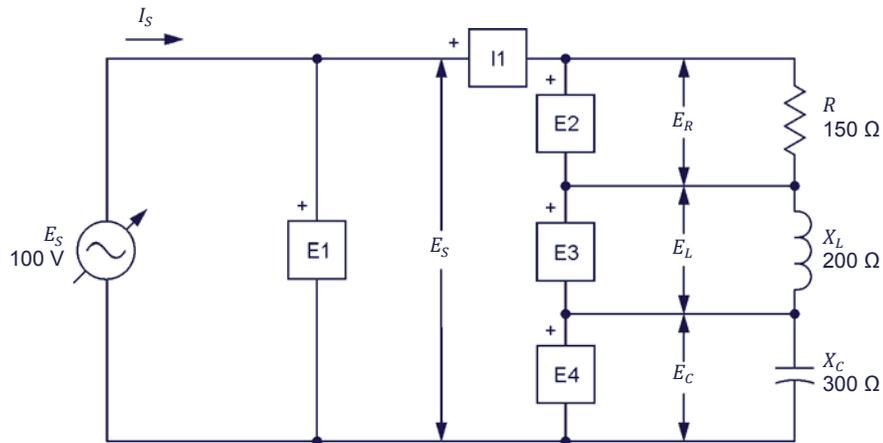

Figure 4-6. Series ac circuit containing a resistor, an inductor, and a capacitor, and set up for circuit analysis.
13. Set up the circuit shown in Figure 4-6.
14. Resolve the entire circuit shown in Figure 4-6 using the impedance calculation method.